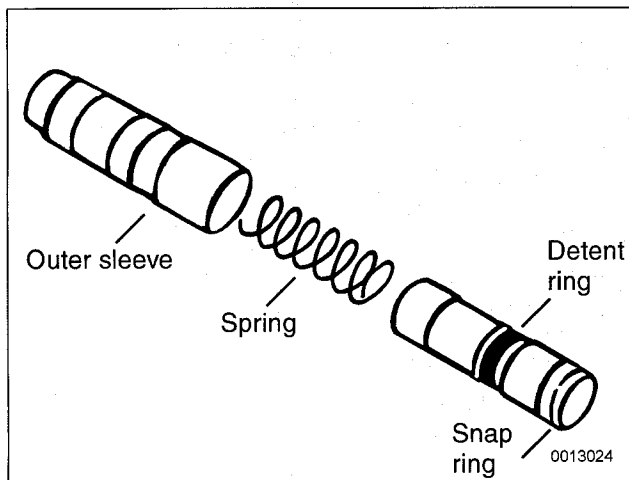

Fig. 12. Disassembled early-style chain tensioner used on M42 engine.
7. On M42 engine: Disassemble chain tensioner by striking outer sleeve against a solid object. This will release snap ring and tensioner will separate. See Fig. 12.